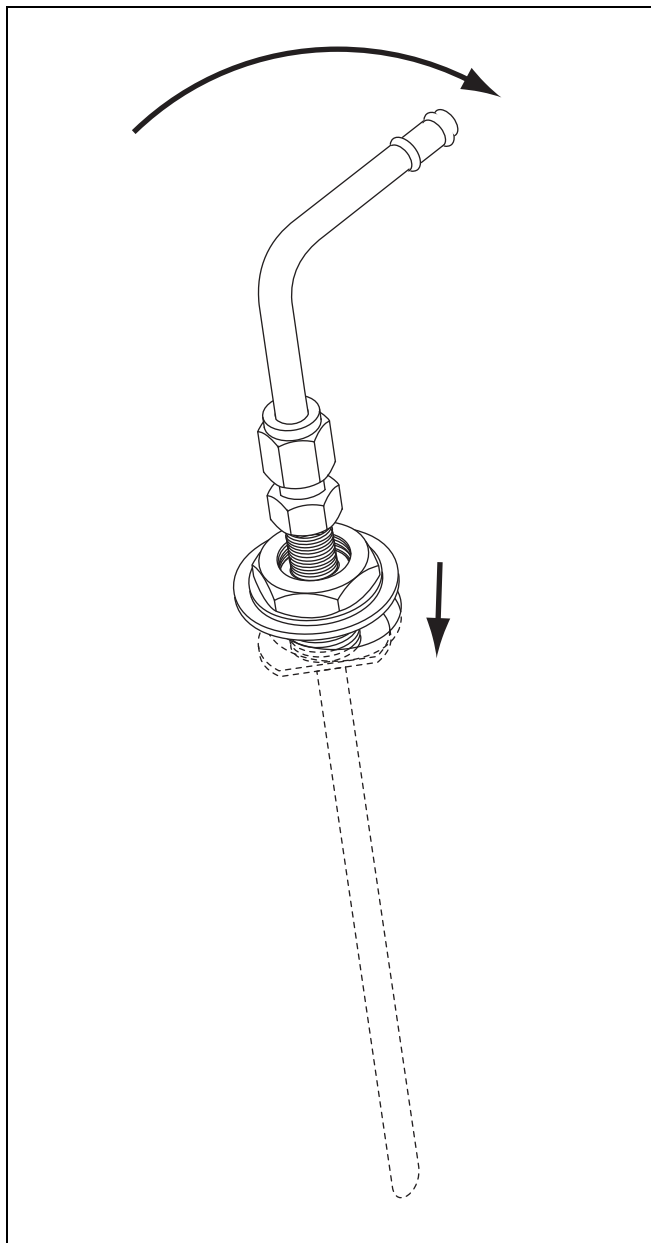

Figure 19: Standpipe installation - illustration 2
- bring standpipe up to horizontal and insert opposite shoulder under the tank hole. See Figure 19.